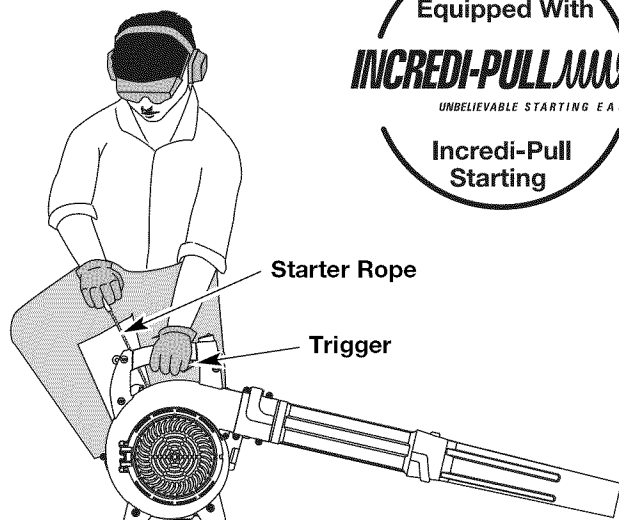

Fig. 13
WARNING: Avoid accidental starting. Make sure you are in the starting position when pulling the starter rope (Fig. 13). To avoid serious injury, the operator and unit must be in a stable position while starting. To avoid serious personal injury, make sure that the blower tube is locked in place or firmly installed.
NOTE: The unit should be started in idle speed. Do not squeeze the trigger while starting (Fig. 13).
5. Crouch in the starting position (Fig. 13) and pull the starter rope out until you feel some resistance. This is usually around 2-4 inches. Pull 4 times in smooth and rapid pulls.
6. Place the choke lever in Position 2 (Fig. 13).
9. Place the choke lever in Position 3 (Fig. 13). The unit is ready for use.